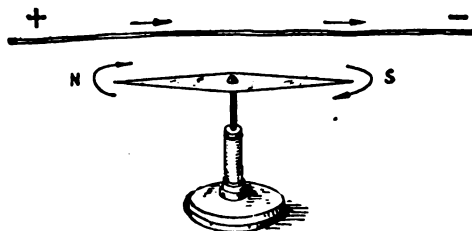
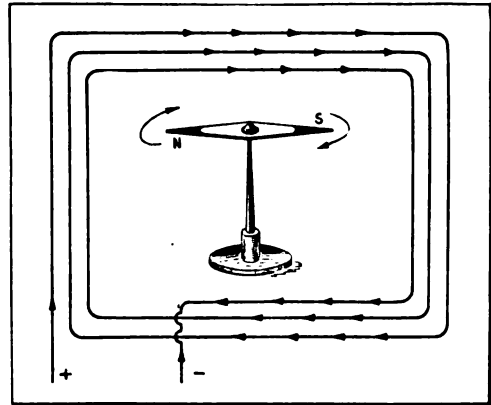

Figure 19
Figure 28
(1) As stated in a previous article, a compass needle, if suspended freely, will set itself in a certain definite direction; it will lie parallel with the earth's magnetic field, which is to say, the earth's magnetism exerts a force upon the needle and will hold it in this position.
(2) When the needle is in the position above mentioned, and a current-carrying conductor is placed either underneath or above, the needle will be deflected to the right or to the left, depending upon the direction of the flow of current or whether the wire is above or below the compass needle.
(3) If, for example, the needle is deflected to the right and the current in the conductor is afterward reversed, the needle will change its position and turn to the left.
(4) Or, if the wire is placed above the needle and the latter is deflected to the right and the wire is then placed below the needle, it will turn or be deflected to the left.
(5) The foregoing experiment demonstrates conclusively that the flow of electricity is always accompanied by a magnetic field, because, as previously shown, only magnetism will affect or turn a compass needle. The direction of the magnetic field is evidently at right angles to the wire for, if a strong current is passed through the wire, the needle will take up a position practically at a right angle to the conductor.
(6) The stronger the current the greater will be the deflection of the needle; also the further away from the wire the compass needle is placed the less will be the deflection. (Note Figure 19 following:)
(1) From this experiment we deduce that magnetic lines of force exist in concentric circles around a conductor carrying electrical current.
(2) By enlargement of the principle shown in Figure 19, using a coil of wire of several turns, an increased effect upon the needle is produced. (See Figure 28.) The apparatus can then be employed to measure the intensity of currents. Such a device would be called a **galvanometer**.
- (2) Figure 28. To show the construction of the simplest type of galvanometer.
In Figure 28 a simple compass needle is placed inside a rectangular coil of wire.